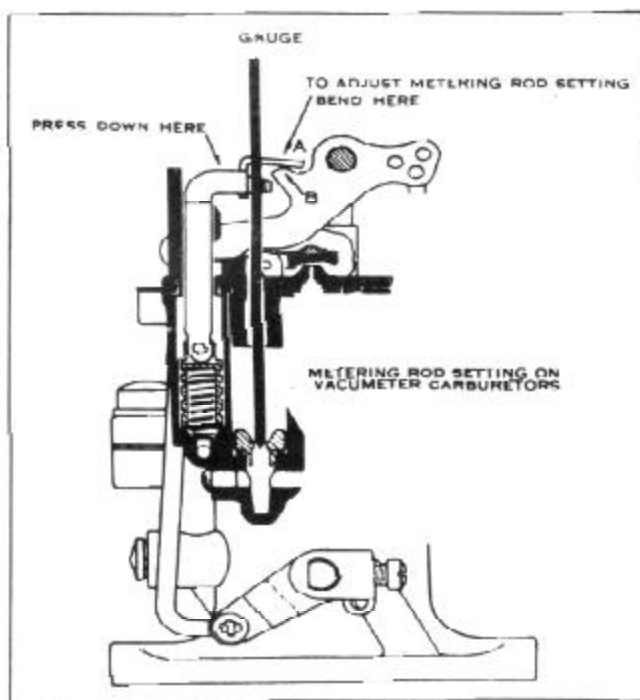

FIGURE 32
4. Insert metering rod gauge, J-1265 (Carter No. T-109-102). Hold gauge vertical and be sure gauge is seated in metering rod jet, Figure 32.
6. Adjust by bending lip on piston link at (A).